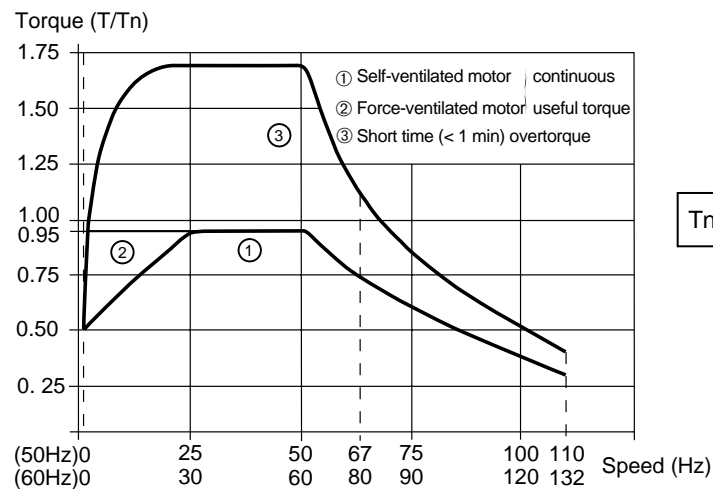

Figure 2-29 Typical Driving Torque Curves
Figure 2-29 below illustrates typical continuous torque and overtorque driving capability for a typical NEMA Design B, 1.0 service factor motor whose no-load current is less than 58% of the motor rated current. The motor is operated with constant V/f excitation. In addition, the controller rated output current is greater than or equal to the motor nameplate current and the controller transient output current capability is no less than 150% of controller rated output current.
- Supply transient overtorque needed for required accelerations (see Figure 2-29 on page 43).